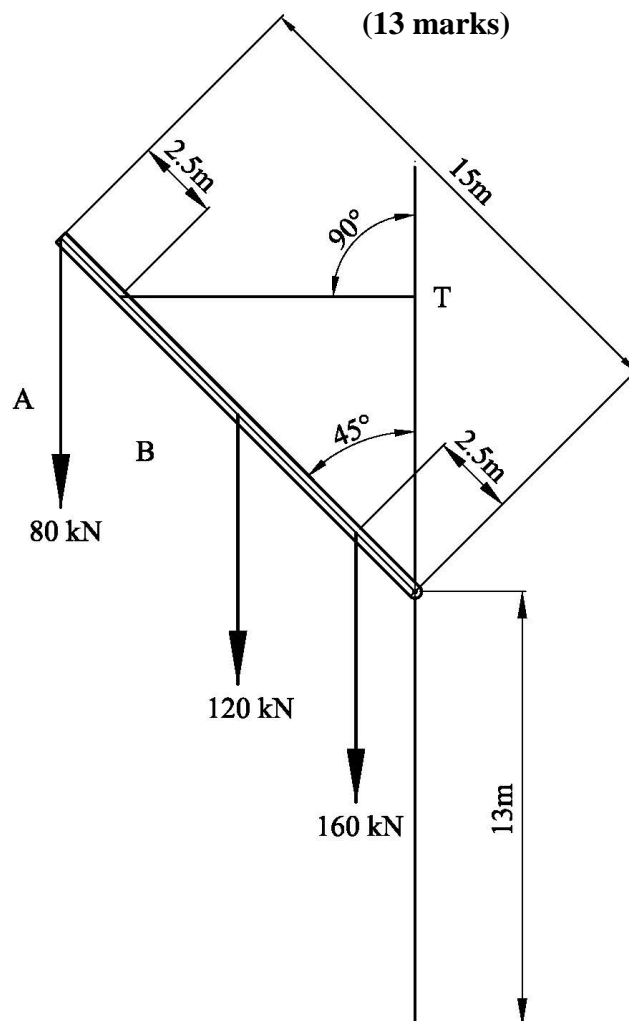

FIG. 4b
- a) To a scale of 10 mm representing 1 m, copy Figure 4b.